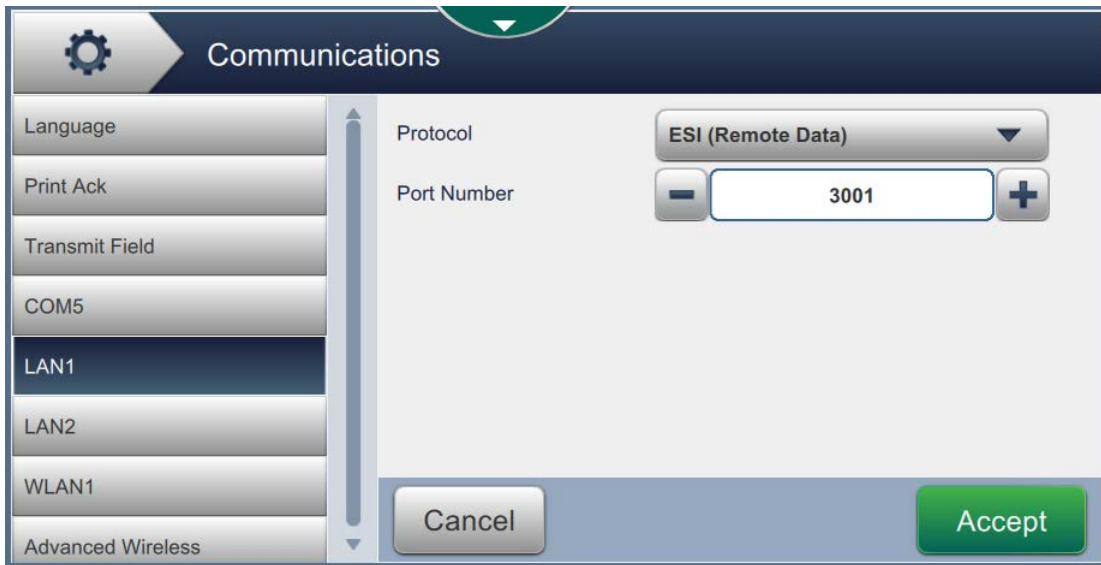

Figure 3-13: Add Protocol and Port Screen
4. The *Add Protocol and Port* screen appears as shown in Figure 3-13. Set the Port Number to 3001.